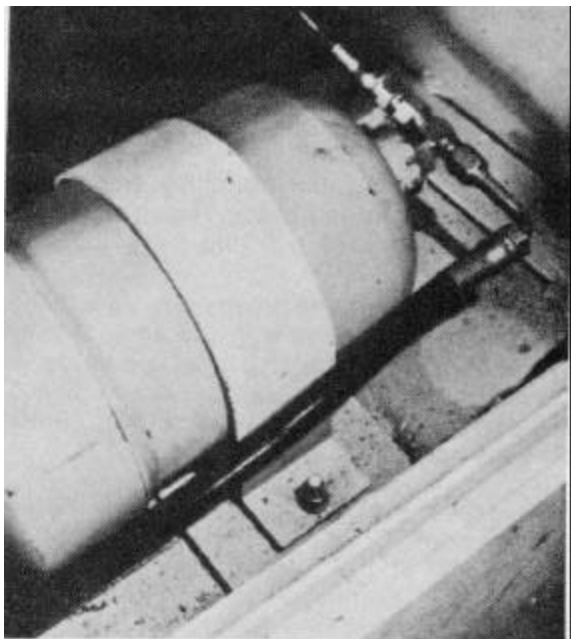

Figure 5-159
1. Open hydraulic door module to expose accumulator (Fig. 5-159).
2. Remove two hydraulic hoses from tee fitting from hydraulic end of accumulator (Fig. 5-159).